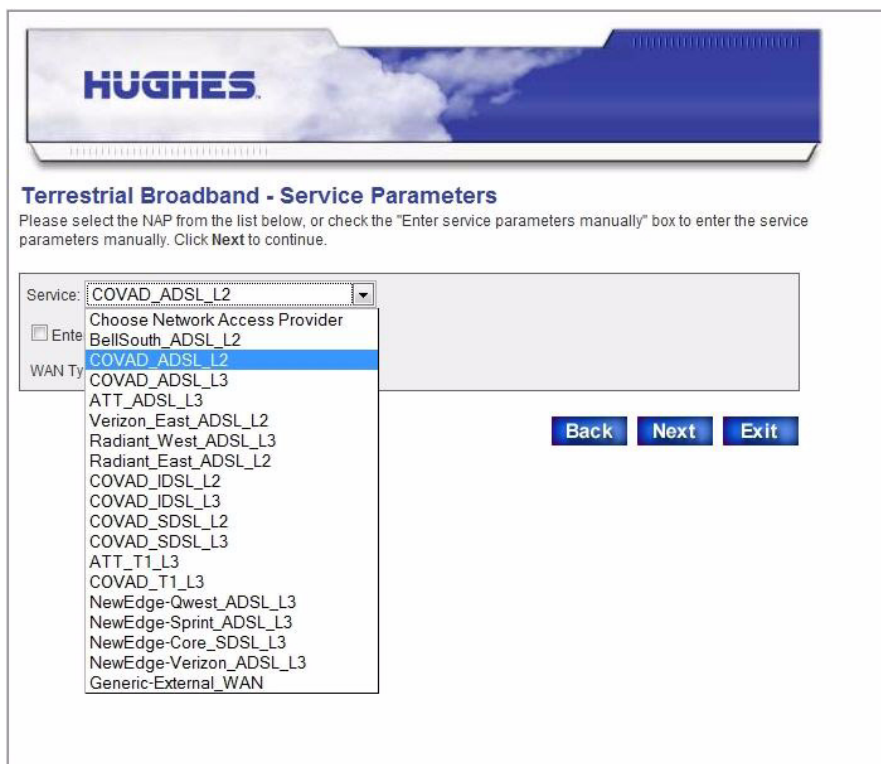

Figure 16: Auto selection - Service Parameters selecting the NAP
5. Figure 16 shows the drop-down list with the ADSL provider highlighted for selection. Figure 17 on page 27 shows a T1 provider selected.